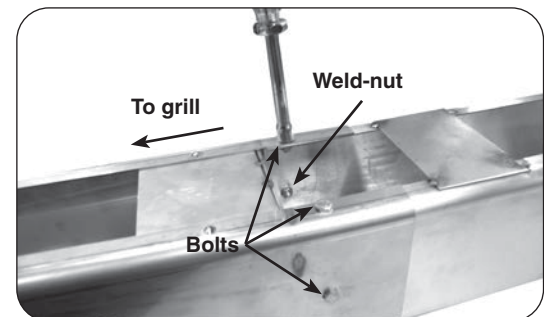

Fig. 20-2 Fasten extension to post
2. From outside the joined post and extension, insert one of the $\frac{1}{4}$ X 20"-5/8 bolts (supplied) into each of the five (5) bolt holes and tighten each using a $\frac{7}{16}$ " socket driver or wrench (see Fig. 20-2).